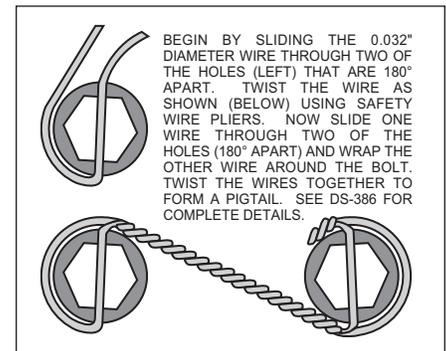

Figure 3. Safety Wire Diagram
- With the larger I.D. side of the rotor (5) facing away from the hat (6), attach the rotor (5) to the hat (6) using washers (7) and bolts (8) as shown in Figure 1. Using an alternating sequence, remove bolts (8) one at a time, apply red *Loctite*® 271 to the threads, and torque to 180 **in-lbs**. Safety wire bolts (8) using standard 0.032 inch diameter stainless steel safety wire as shown in Figure 3. Please refer to Wilwood's data sheet DS-386 (available at www.wilwood.com/Pdf/DataSheets/ds386.pdf) for complete safety wire installation instructions.
- Lubricate caliper mounting studs (12) and nuts (10) with lightweight oil. Install one shim (13) over each stud (12) on the radial mount bracket. Slide the caliper (9) in place over the studs and rotors and install the washer (11) and lock nut (10) to hold the caliper in place. Snug the lock nuts (10) and check that the rotor (5) is centered in the caliper (9). Add or subtract .015" shims (4) as necessary between the mount bracket and the spindle to center the caliper.
- Remove the caliper center bridge pad retainer bolt, nut, and tube from the caliper. Slide the brake pads (14) into place. They should install easily without interference. Check that the outside radius of the brake pad is aligned with the outside diameter radius of the rotor face. Add or subtract shims (13) between the caliper and mount bracket to gain the proper alignment. Reinstall the center bridge pad retainer tube, bolt, and lock nut. The locknut should be snug without play in the bolt or tube. Be cautious not to over tighten.
- Once all clearances have been checked, remove the wheel, caliper, hat, and rotor from the spindle and hub. Secure the caliper mounting bracket (1) to the spindle using red *Loctite*® 271. Torque the bolts to 65 ft-lbs. Reinstall the hat and rotor assembly and again use several lug nuts to hold it in place. Reinstall the caliper, torque the caliper nuts (10) to 30-35 ft-lbs.